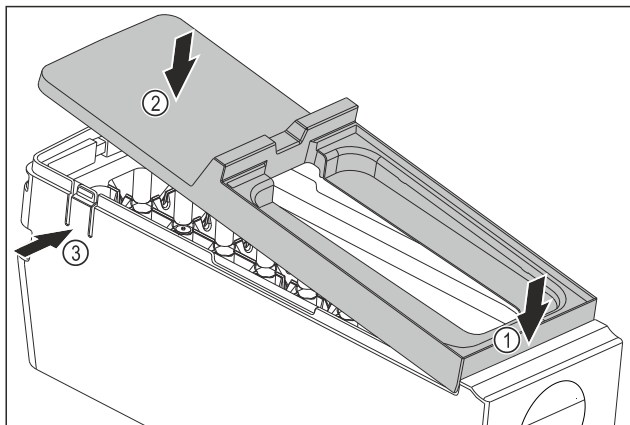

Fig. 146
- ▶ Installing the EasyTwist-Ice body cover: Place the cover on the front. Fig. 146 (1)
- ▶ Lower the cover at the rear. Fig. 146 (2)
- ▶ The cover locks into both tabs Fig. 146 (3) audibly.